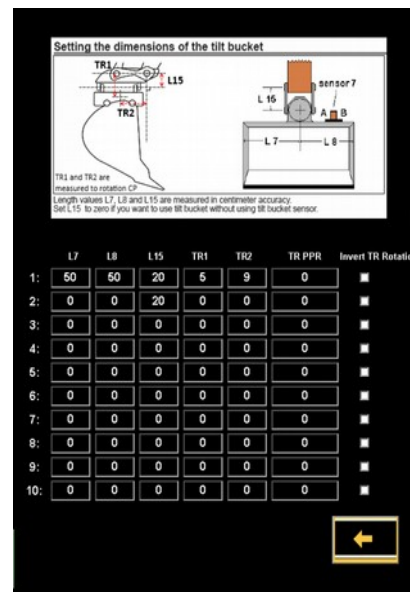

Fig. 33. Tool measures.
11. Press “Tool measures” see Fig 33 and 34